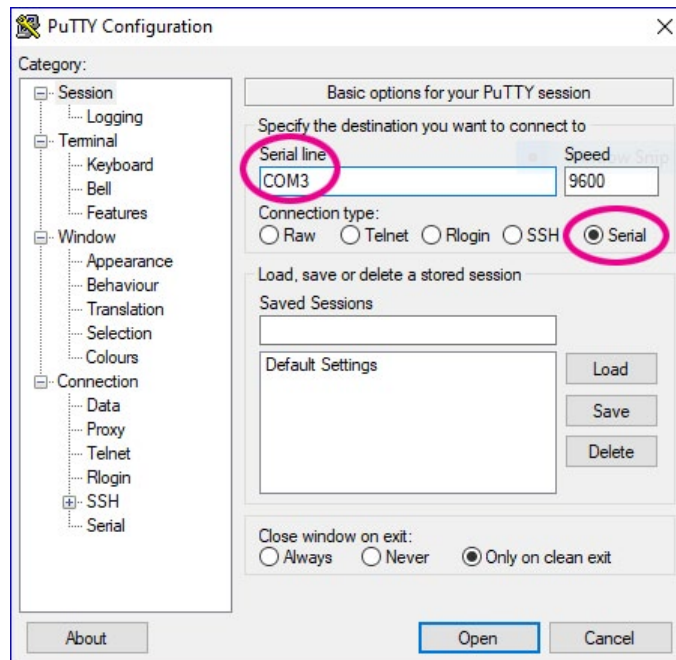

Figure 10 - PuTTY configuration window
5. In the PuTTY Configuration window, select Serial as the Connection type. Enter the correct COM port (from step 2 above) in the Serial line field (Figure 10). Click Open.